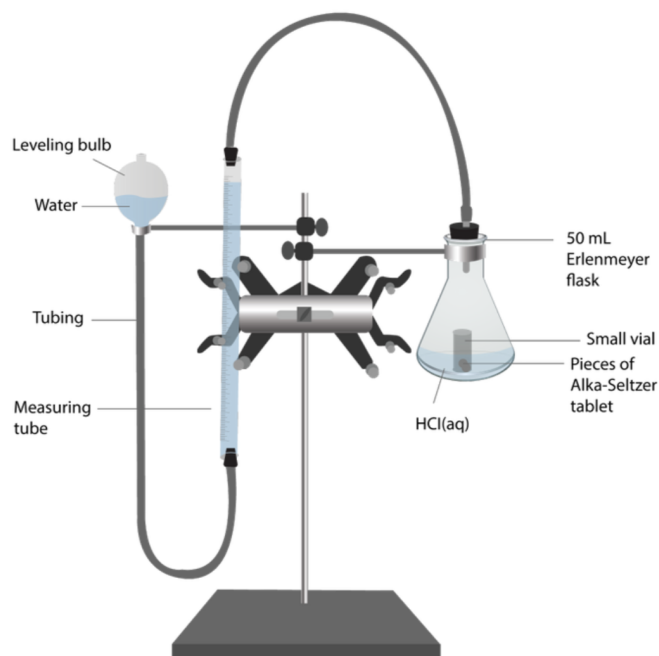

Figure ANT.1: Apparatus for antacid experiment
Your experimental apparatus is shown in Figure ANT.1.
2. Assemble the apparatus, as shown in Figure ANT.1, **leaving the reaction chamber disconnected for now.**
- Place approximately 6 mL of 3 M HCl solution into the Erlenmeyer flask and carefully slide the shell vial down the side of the flask. It is important that no HCl enter the vial prematurely, or the reaction will begin before your system is closed and ready. Clamp the reaction chamber onto the ring stand, as shown in Figure ANT.1.
- Measure the temperature of the water in your leveling bulb and record it in Figure ANT.1 (You only need to record this for the first trial.)